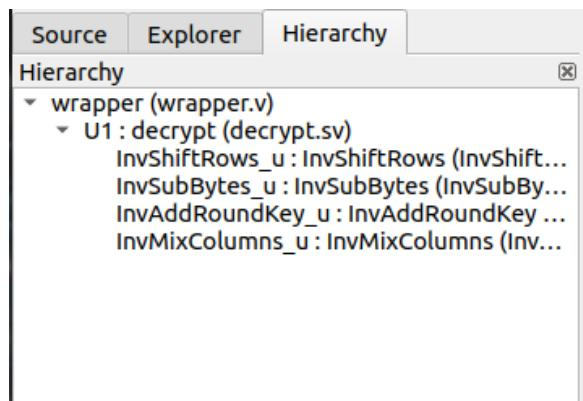

**Figure 6. Example Project View**
- Run Tcl scripts from the Raptor Design Suite Tcl console within the Raptor GUI (see Figure 6).
Figure 6 shows an example project (and2\_gemini) with all main views highlighted. Each number in the figure is described below.